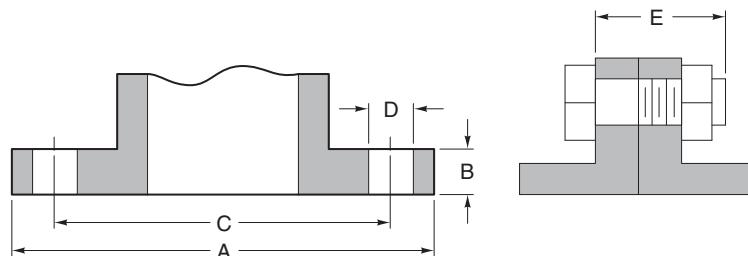

Figure 11. Flange Dimensions.
**Table 9. Flange Detail - American Standard 125 lb. Cast Iron Pipe Flanges. (Figure 11)**